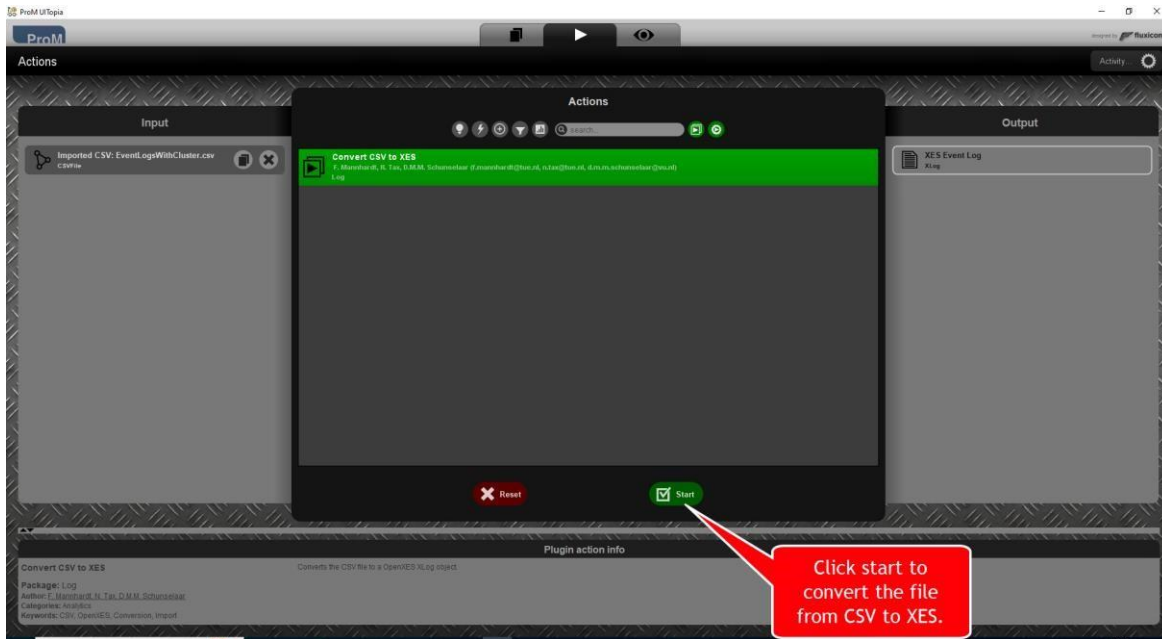

Figure 9 – Image showing how to convert CSV file to XES.
5. Ensure “Convert CSV to XES” is selected in the next window and click “Start” as in Figure 9.